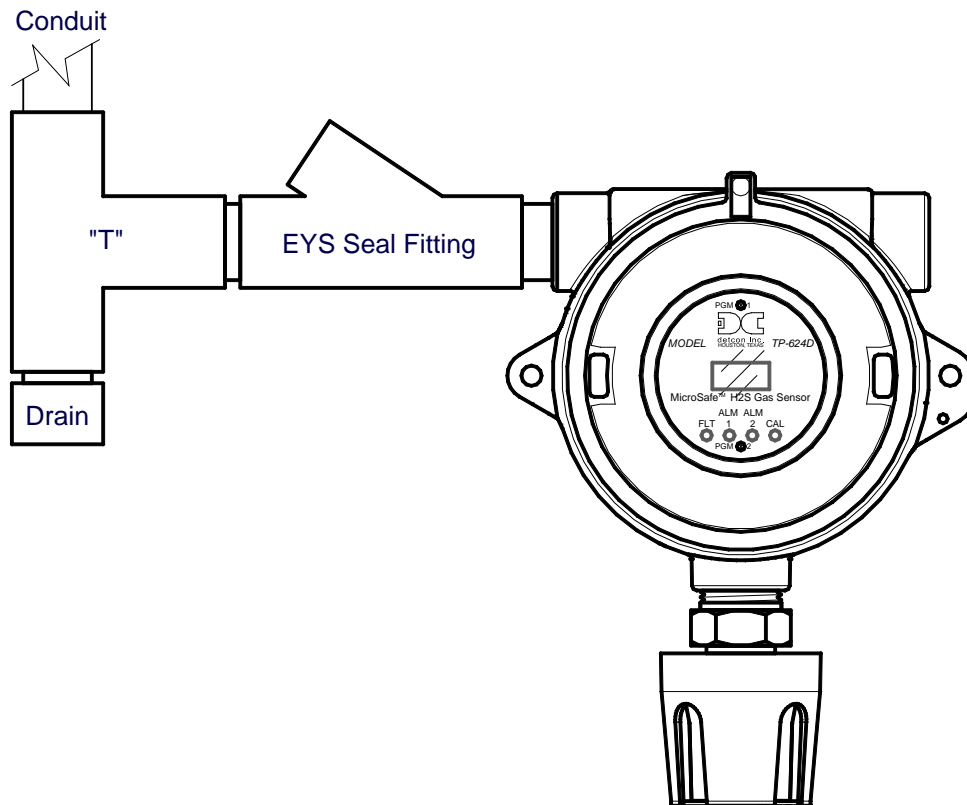
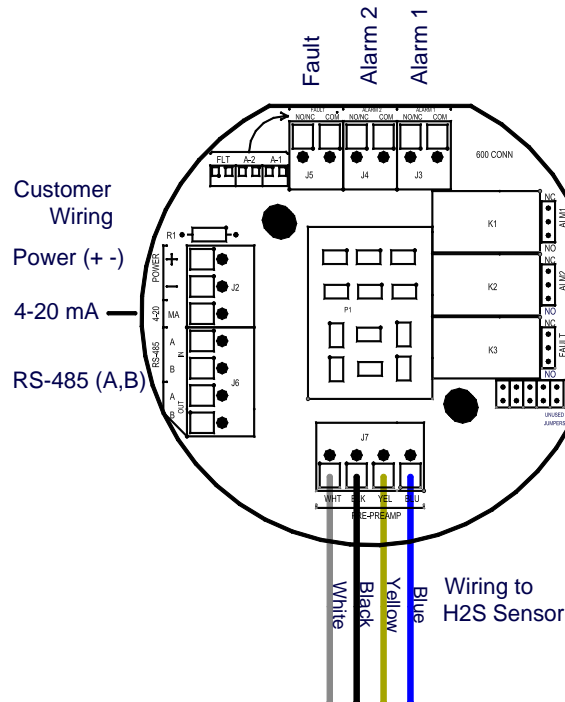

Figure 8 Typical Installation
Figure 9 Sensor Connector PCB
NOTE: In all installations the gas sensor should point straight down (refer to Figure 8). Improper sensor orientation may result in false readings and permanent sensor damage.
Proper electrical installation of the gas sensor is critical for conformance to Electrical Codes and to avoid damage due to water leakage. Refer to Figure 8 and Figure 9 for proper electrical installation.
NOTE: If a conduit run exits the secondary port, repeat the installation technique shown in Figure 8.
In Figure 8, the drain allows H₂O condensation inside the conduit run to safely drain away from the sensor assembly. The electrical seal fitting is required to meet the National Electrical Code per NEC Article 500-3d (or Canadian Electrical Code Handbook Part 1 Section 18-154). Requirements for locations of electrical seals are covered under NEC Article 501-5. Electrical seals also act as a secondary seal to prevent water from entering the wiring terminal enclosure. However, they are not designed to provide an absolute watertight seal, especially when used in the vertical orientation.
NOTE: For products utilizing the aluminum junction box option, the conduit seal shall be placed at the entry to the junction box (see Figure 8 as an example). For products utilizing the stainless steel junction box option, the conduit seal shall be placed within 18" of the enclosure. Crouse Hinds type EYS2, EYD2 or equivalent are suitable for this purpose.
- Observing correct polarity, terminate the field wiring (DC+, DC-, MA, A, and B) to the sensor assembly wiring in accordance with the detail shown in Figure 9.